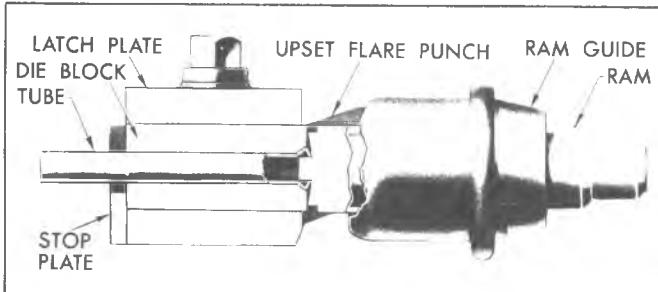

Fig. 38--Flaring Operation
- Using the supplied wrench, draw the latch plate nut down tight to prevent the tube from slipping. Tightening the nuts alternately (beginning with the nut at the closed hole in the plate), will prevent distortion of the plate. Remove the punch and the ram. Now reverse the punch and put it back into the tool body. Install the ram and tap it until the upset flare is complete (fig. 38). This completes the first operation. Remove the ram and the punch.